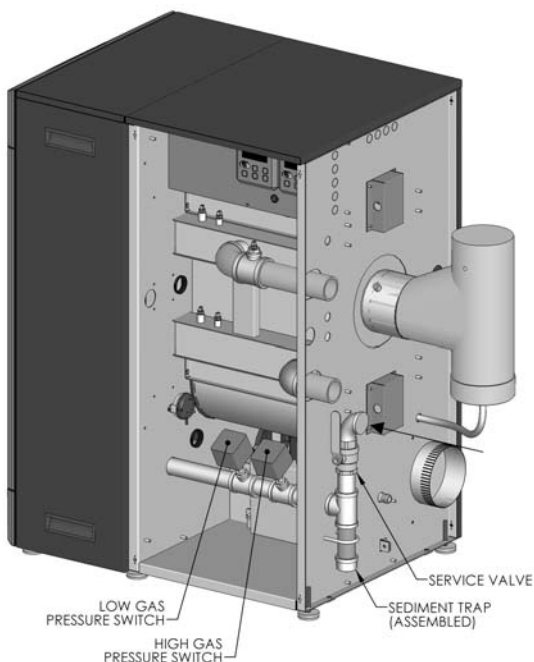

Figure 5.1: Gas Supply Pipe and Shutoff
2. A sediment trap is included from the factory into the supply piping at the boiler. Figure 5.1 shows the sediment trap at the rear of the boiler near the base.
3. High and low gas pressure switches are provided on the gas supply header inside the boiler cabinet. Figure 5.1 shows the pressure switch location.
4. Install the service valve, supplied by the factory, as shown in Figure 5.1 on the inlet to the boiler gas piping.